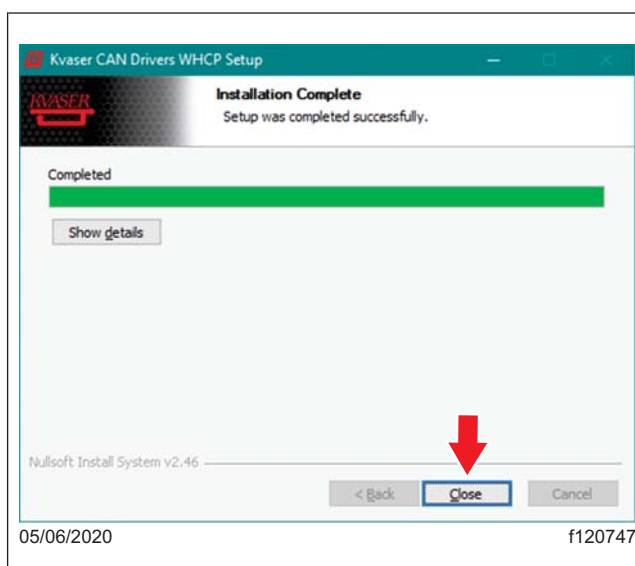

Fig. 14, Kvaser Installation Complete Window
17. A window will appear when the installation is complete. Select 'Close.' See Fig. 14.